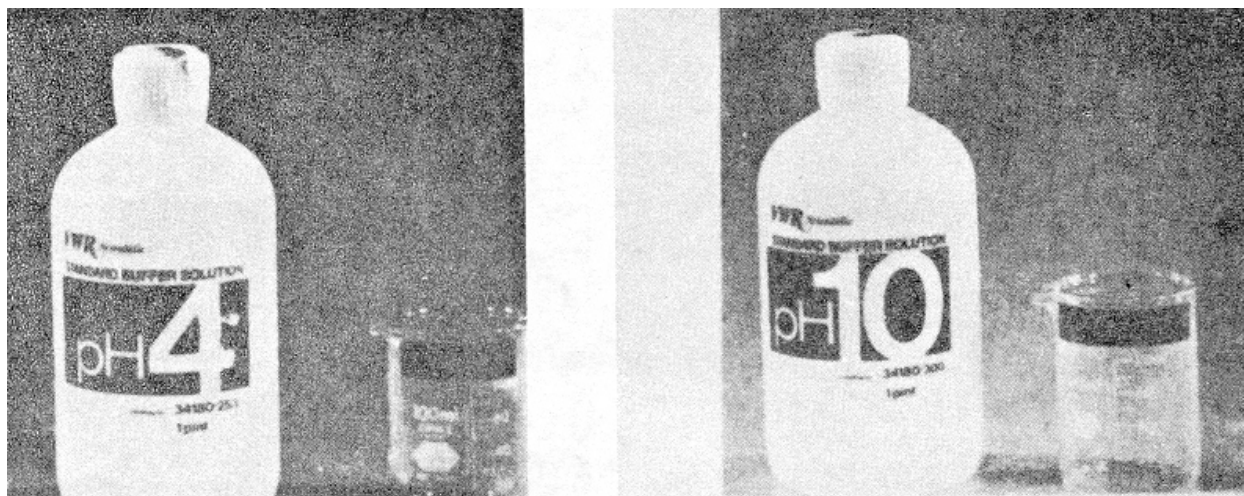

Figure 4
2. Obtain a buffer solution (figure 4) with a pH value as close as possible to the probable pH of the sample which is to be analyzed. EXAMPLE: pH 10 for developers or pH 4 for fixer.